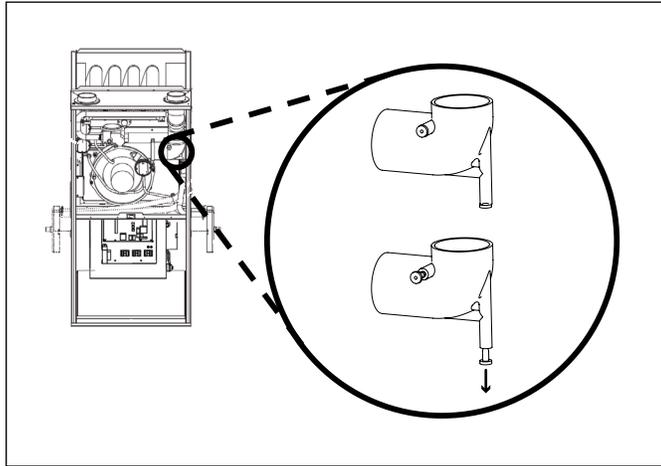

Figure 13
4. Remove cap from the inducer drain port (see Figure 13).